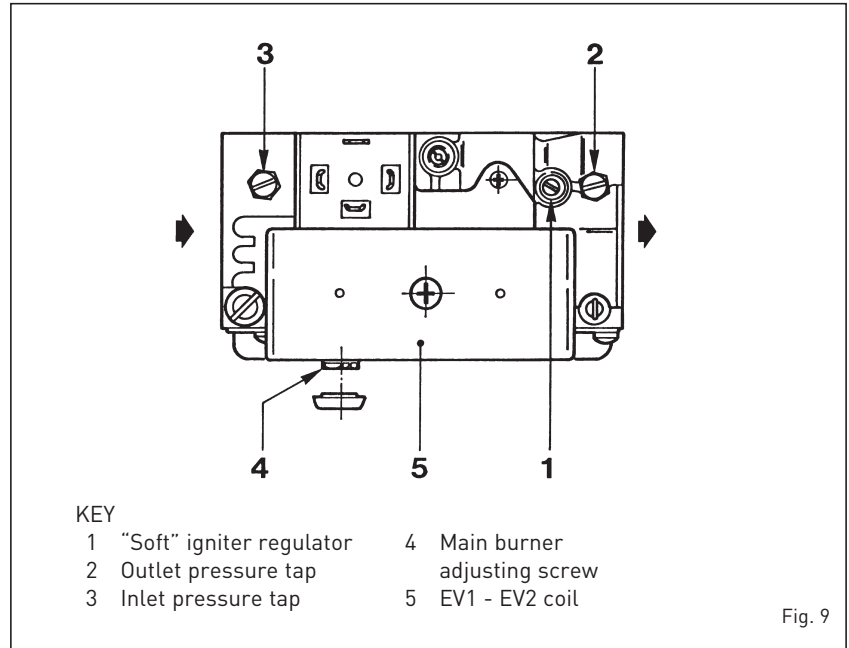
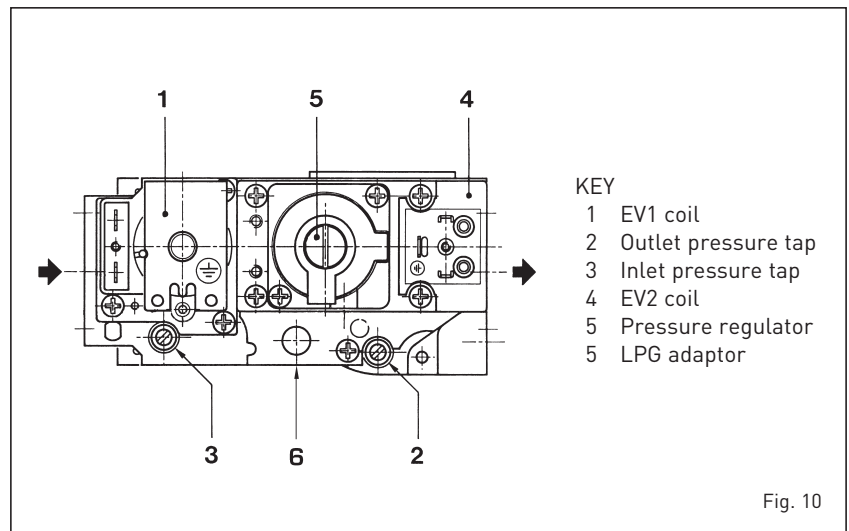

Fig. 9
Fig. 10
Standard "RX 19-26" boilers with electronic ignition feature a SIT 830 TANDEM gas valve (fig. 9). When the boiler is ignited for the first time, it is always better to purge the pipe through the pressure tap (3). Remove the plug on the pressure regulator (4) to adjust the main burner gas pressure.
The electronically ignited "RX 37÷55" boilers are equipped with the HONEYWELL VR4605C gas valve (fig. 10).
regulator and tighten the adjusting screw (4 fig. 9 - 5 fig. 10).
- Apply the adaptor onto the gas valve (6 fig. 10).